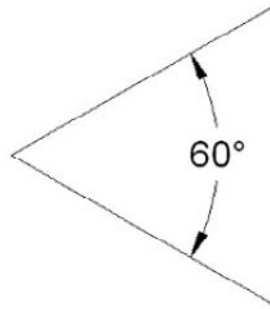

Figure 6.6 – Angular dimension
- **Angular Dimension** – This is a dimension for angles between two lines or objects (Figure 6.6).
Create two lines spread out at a random angle as seen in Figure 6.6. Then begin the angular dimension command via any of the above methods.